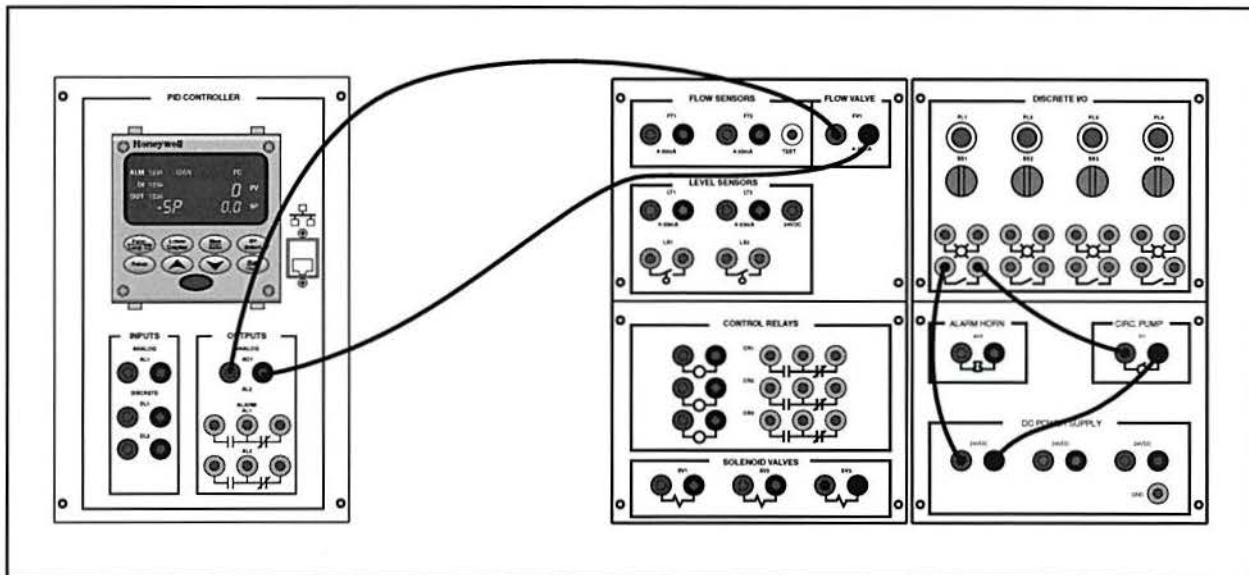

Figure 39. Flow Control Circuit
- F. Connect the circuit shown in figure 39.